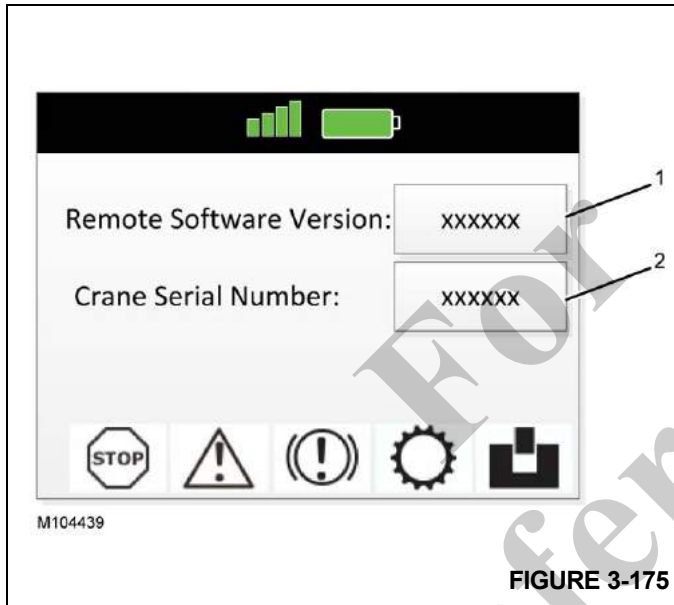

FIGURE 3-175
access the rear boom extension stowage actuator screen (2). See (Figure 3-175).
See (Figure 3-175).